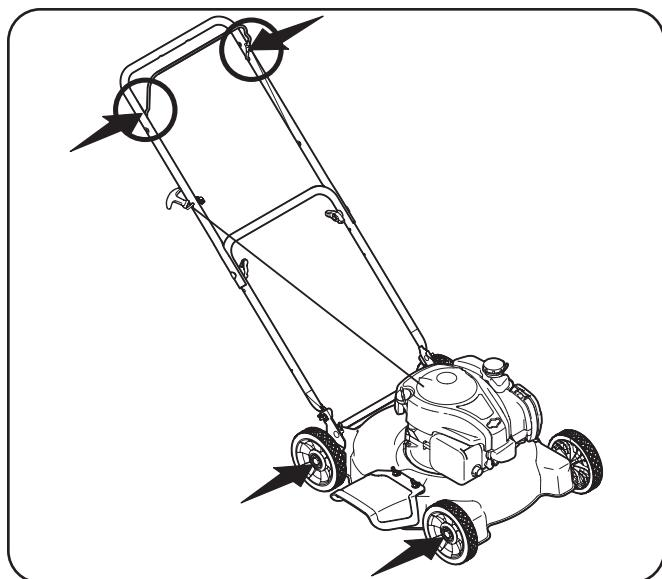

Figure 6-1
- Lubricate pivot points on the blade control at least once a season with light oil. This control must operate freely in both directions. See Figure 6-1.
- Lubricate the wheels at least once a season with light oil (or motor oil). If wheels are removed for any reason, lubricate surface of the axle bolt and inner surface of the wheel with light oil. See Figure 6-1.